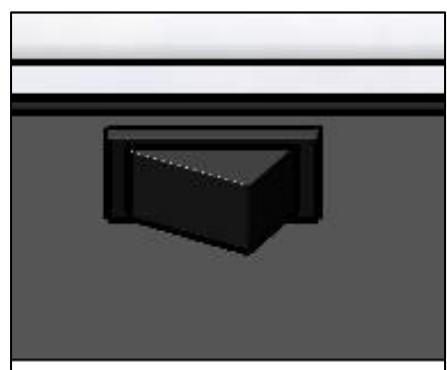

Fig. 5.5: Production switch, located on the upper side inside the storage bin
5.2.7 Mount front metal sheet. Please make sure that the production switch (see Fig. 5.5) is turned to the right.